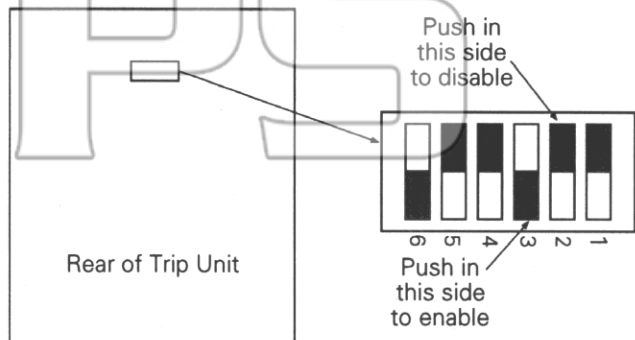

Figure 4. Accessory switch on rear of Trip Unit, showing factory settings (solid part indicates that switch is pushed in on that side).
The UVR accessory can be configured to activate the Bell Alarm–Alarm Only or Bell Alarm with Lockout accessories if a UVR trip occurs. The configuration can be changed by removing the Trip Unit from the breaker, setting the DIP switches on the rear of the Trip Unit, and reinstalling the Trip Unit. Figure 4 illustrates the Trip Unit read DIP switches and their functions. Table 2 lists the switch functions and the factory settings for each.
4. Refer to Figure 4 and Table 2 to determine the switches to be changed.